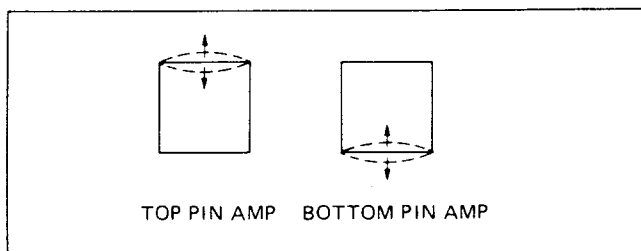

Fig. 2-8-5
- 3) Adjust the lateral line horizontally with **TOP AMP** RV106 and **BOT AMP** RV104 as shown in Fig. 2-8-5.